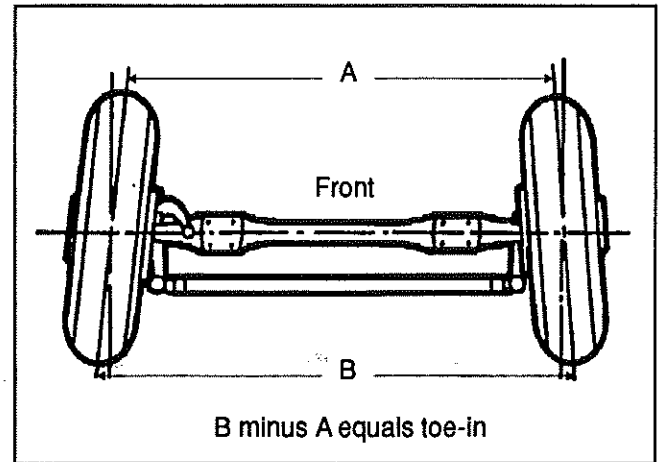

Fig. 4
9. Read toe-in (or toe-out) from scale (see fig. 4).
10. These two measurements must be taken at the same height above the floor. Toe-in (or toe-out) is the difference between the measurements taken at the front and rear of the tires (see fig. 4). The toe-in measurement should be $3/32'' \pm 1/32''$ (2,4 mm \pm 0,8 mm).